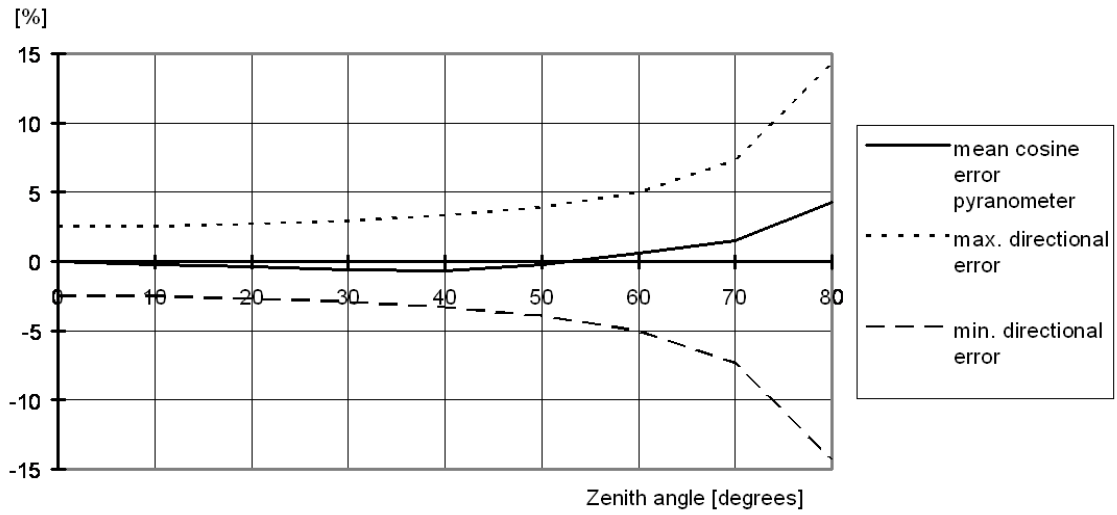

Figure 2.4 The directional response, or cosine response, of the pyranometer:
A perfect cosine response will show maximum sensitivity (1) at an angle of incidence of 0E (perpendicular to the sensor surface) and zero sensitivity at an angle of incidence of 90E (radiation passing over the sensor surface). Between 90 and 0 degrees, the sensitivity should be proportional to the cosine of the angle of incidence. Figure 2.4 shows the behaviour of a typical pyranometer. The vertical axis shows the deviation from ideal behaviour, expressed in percentage of the ideal value.